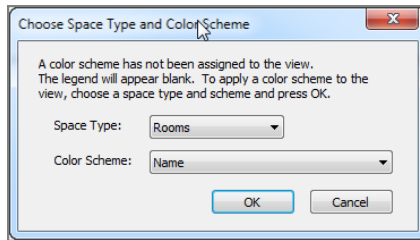

FIGURE 15.18: Specifying the color scheme
7. Change Space Type to Rooms and Color Scheme to Name (see Figure 15.18).